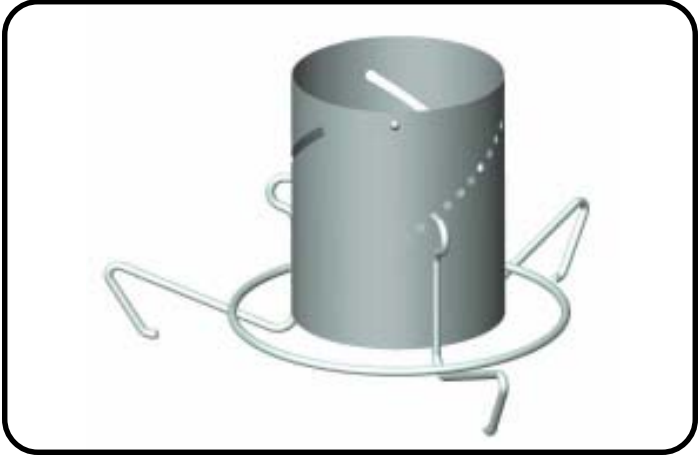

Figure 2
2. Assemble the feed level tube to the feed level ring as shown in Figure 2. Position the ring in the third hole from the bottom. Note that the dimple on the feed level tube is at the top of the assembly for steel and plastic pans. The dimple on the feed level tube is at the bottom of the assembly for intermediate pans.